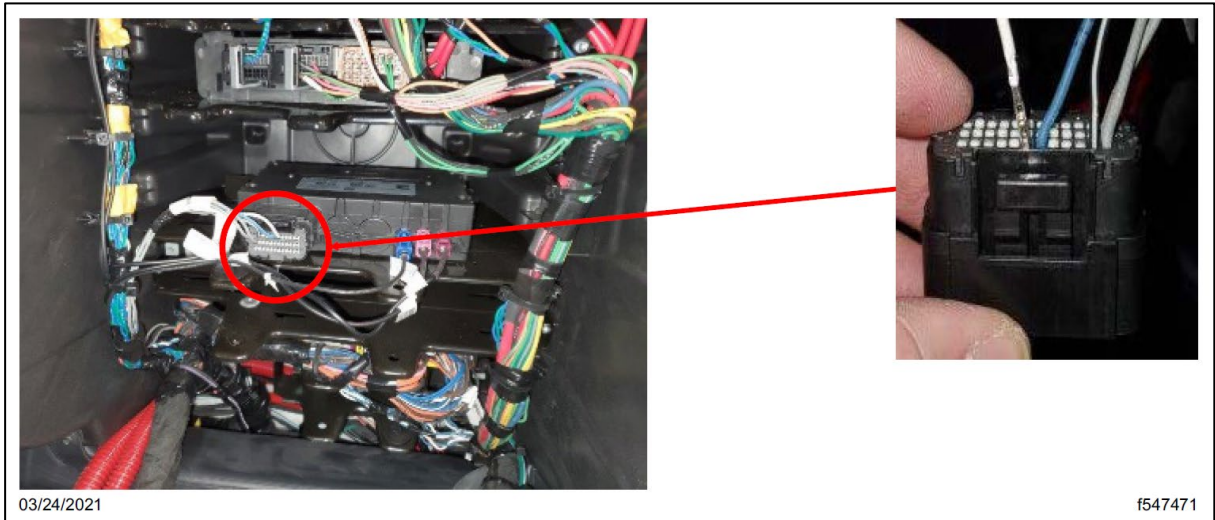

Fig. 4, ENG_CTRL_D_ECU_CMNS_EDGE_1A Connector Location
11. Disconnect the Cummins Acumen module connector ENG_CTRL_D_ECU_CMNS_EDGE_1A located in the electronic bay, on the RH side of the dashboard. See Fig. 4.